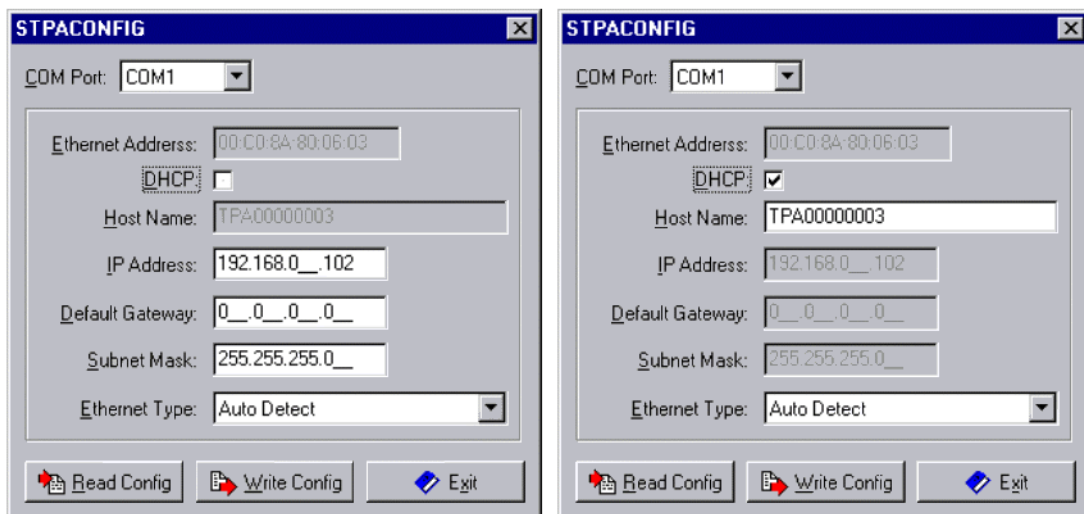

Figure 2-10 COM port
4. Select the COM port that MultiTrace is connected to and then click the **Read Config** button. The dialog then changes to show the current configuration similar to one of the dialogs in Figure 2-10 on page 2-15 (depending on whether DHCP is checked).